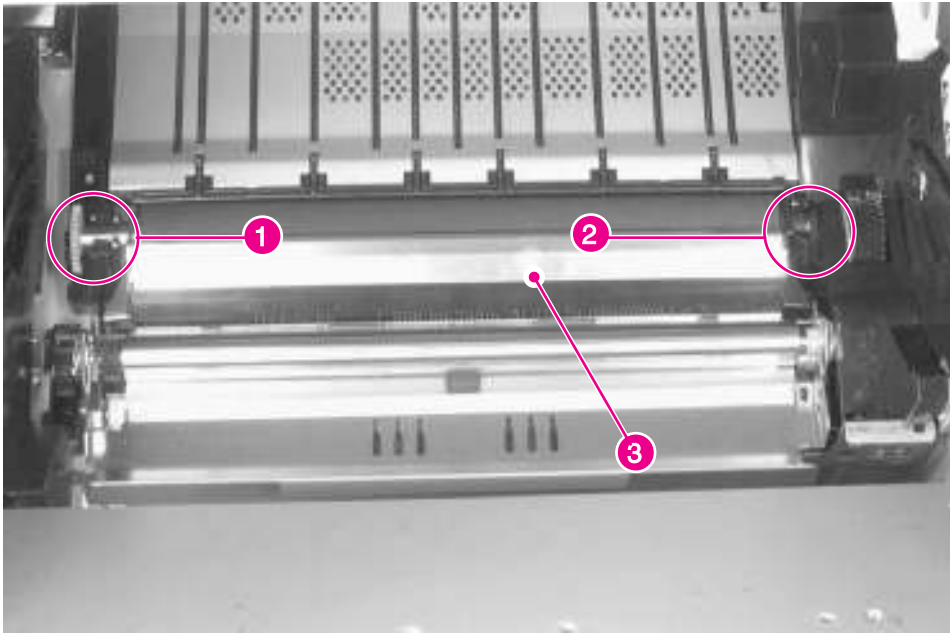

Figure 6-60 **Transfer Roller Assembly**
- 2 Remove the Transfer Roller Assembly (see figure 6-60 on page 228).
- Transfer Roller (see figure 6-60 on page 228)
- 2 Grasp the gear (figure 6-60, callout 1) on the left end, and carefully lift upward just enough to clear the retainer clip.
- 3 Slide the Transfer Roller Assembly to the left to release the shaft on the right end (figure 6-60, callout 2).
- 2** Hold the Transfer Roller wiper up (figure 6-60, callout 3) and slide the assembly to the right until the gear on the left end is in position.
- 4** Press the Transfer Roller wiper down (figure 6-60, callout 3) until the retaining clips snap into place.